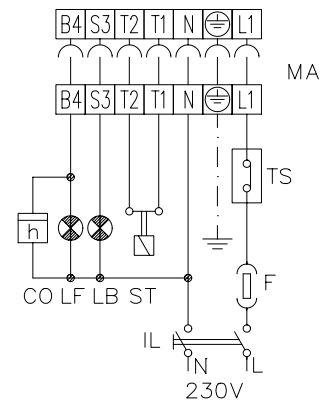

Fig. 11
- Carry out the electrical connections to the multiple connector as shown in Fig. 11.